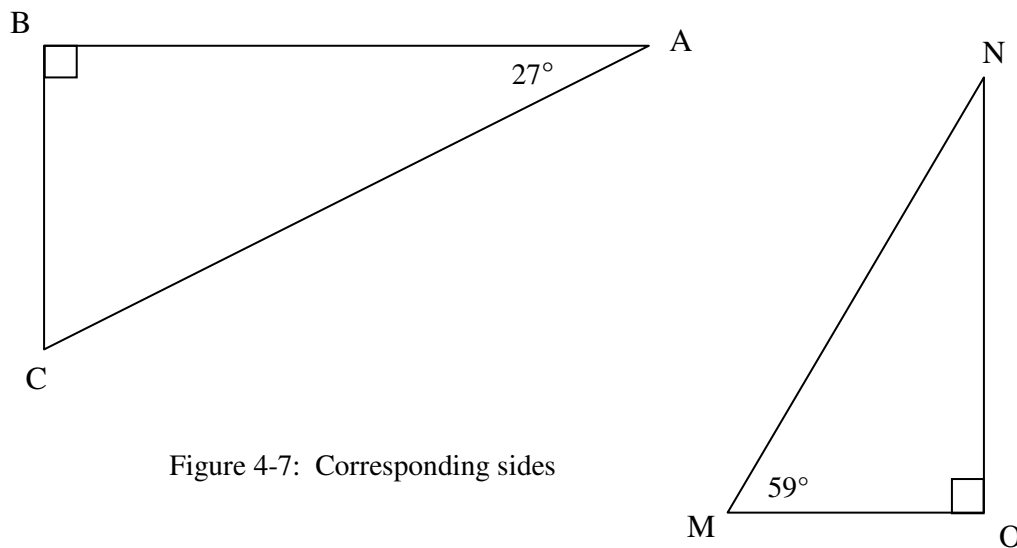

Figure 4-7: Corresponding sides
1. See Figure 4-7 below. Are these two triangles similar? Explain your answer.